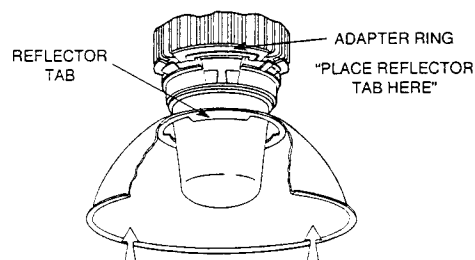

FIGURE 3
1. Place the reflector in position on the luminaire housing adaptor ring. When correctly placed, all three tabs of reflector will rest on areas marked "Place Reflector Tab Here" on adapter ring. See figure 3.